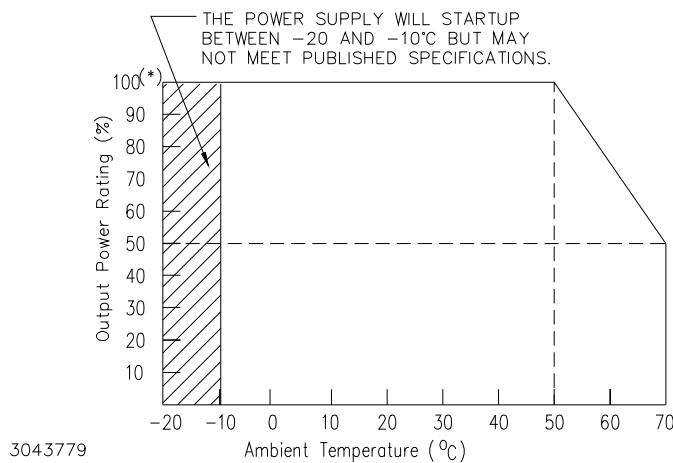

FIGURE 2. POWER RATING VS. TEMPERATURE
- (1) To adjust output voltage down to approximately 0V requires that DIP SW1, position 7 be set to ON. Refer to Table 5 for minimum conditions required to maintain proper operation of alarm relay, meter (AM Models only) and VDC ON/ALARM indicator. Models with suffix "Z" allow adjustment down to 0V without restrictions for maintaining VDC ON indicator, meter and alarm functionality.
- (2) Using trimpot to attain voltages outside the specified adjustment range may trigger overvoltage (PAR 3.6.1) faults. Recovery is by removing, and after approximately 40 seconds, reapplying AC input power or by reset (open and close) at ±RC terminals (no delay).
- (3) See Figure 2 for power derating.
- (4) CAUTION: The unit may be damaged if operated under overcurrent or shorted conditions for more than 30 seconds. If current exceeds limit (105% of nominal), output voltage starts to drop. If overload condition continues, current up to 130% of nominal may be experienced.
- (5) Constant current limit with automatic recovery, except 5V model: constant current limit with hiccup and automatic recovery (see PAR. 3.6.2).
- (6) When overvoltage is detected, output is shut OFF. Recovery is by removing, and after approximately 40 seconds, reapplying AC input power or by reset (open and close) at ±RC terminals (no delay).
- (7) Measure with JEITA RC-9131A probe, bandwidth of scope: 100MHz.